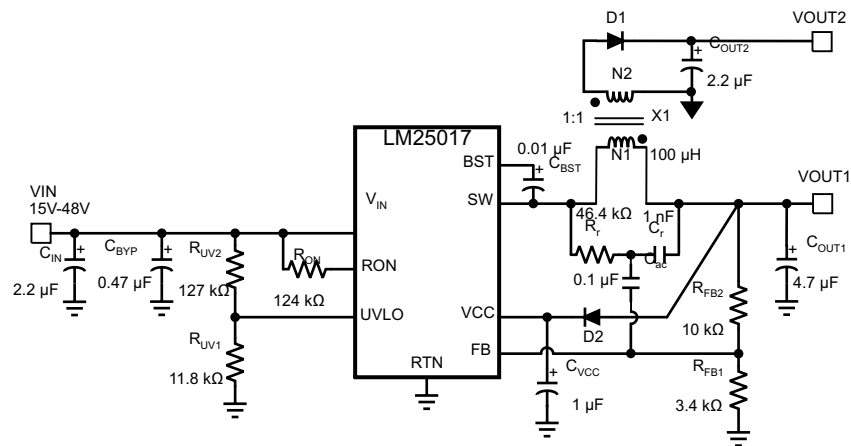

图 8-5. Typical Isolated Application Schematic
An isolated supply using LM25017 is shown in 图 8-5. Inductor (L) in a typical buck circuit is replaced with a coupled inductor (X1). A diode (D1) is used to rectify the voltage on a secondary output. The nominal voltage at the secondary output ( $V_{OUT2}$ ) is given by 方程式 17.